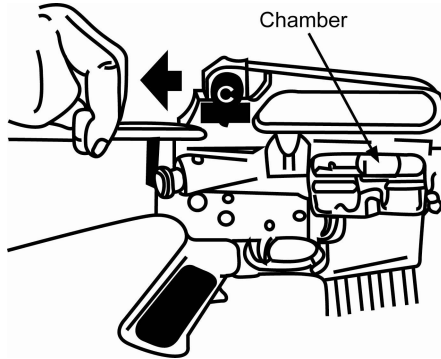

Figure 2-32. Pull Charging Handle Back
- b. Pull charging handle all the way back. Observe ejection of the case or cartridge. Check the chamber for obstruction. Refer to Figure 2-32.